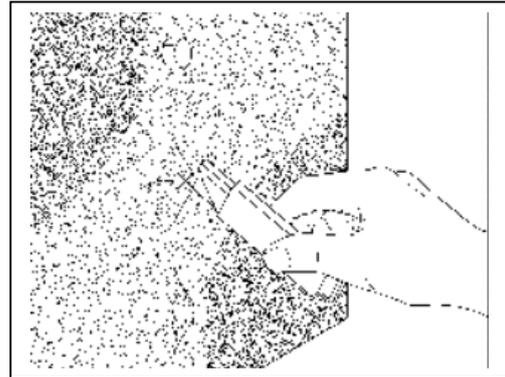

Figure 25. Cutting Around Bolts
2. Cut an **X** through the film directly over the bolt. See Figure 25.